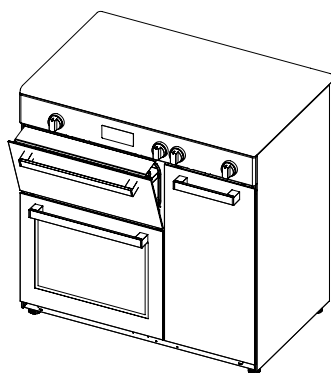

Figure 54
4. And then secure the safety panel in between oven and front cover by gently closing the cover. (figure 54)